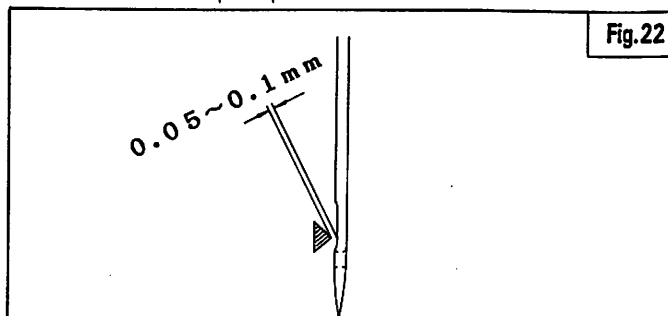

Fig.22
- (1) Re-adjust the looper avoiding motion according to the needle size. (Refer to Fig. 22 ~ 23.)
- (2) In case an extremely fine needle is used: